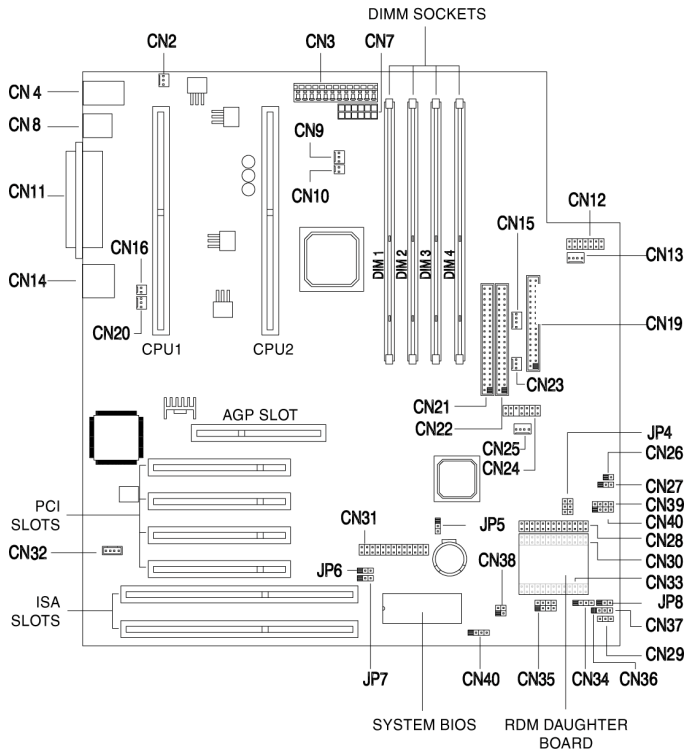

Figure 2-2 System Board Jumper and Connector Locations
Figure 2-2 shows the jumper and connector locations on the system board.
3. Connect the fan and temperature connectors (see Figure 2-2 and Table 2-2):